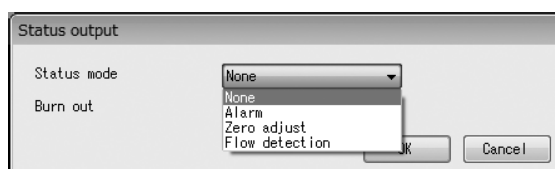
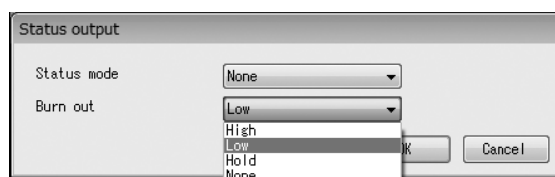

Fig. 3-40
Fig. 3-41
- (3) Click the arrow on the right side of "Status mode" and "Burn out" as shown in Fig. 3-40, Fig. 3-41, and then select an item to be set from the drop-down list.